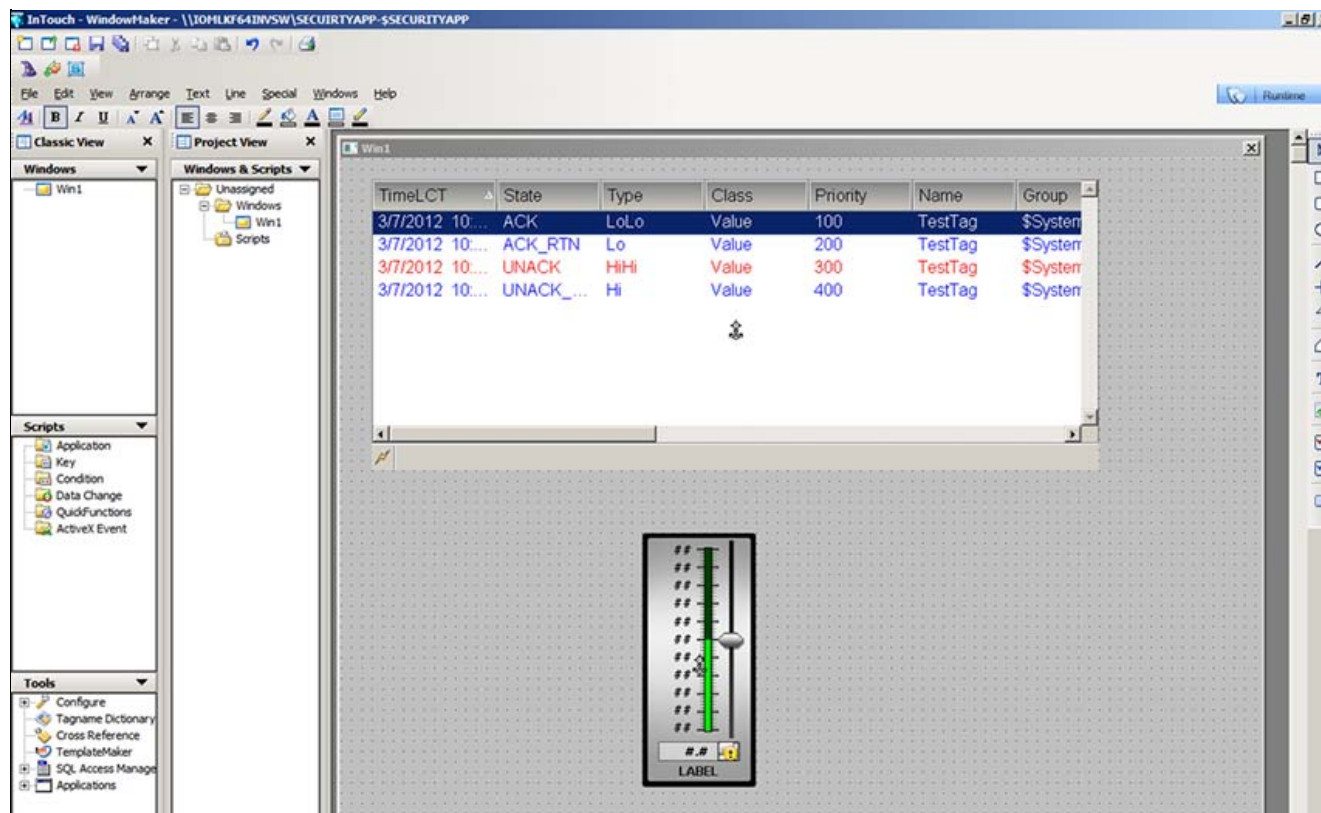

FIGURE 11: ALARMSYMBOL AND SLIDERBASIC SYMBOLS
13. Embed the **SliderBasic** from the ArchestrA Symbol Library (Figure 11 below).